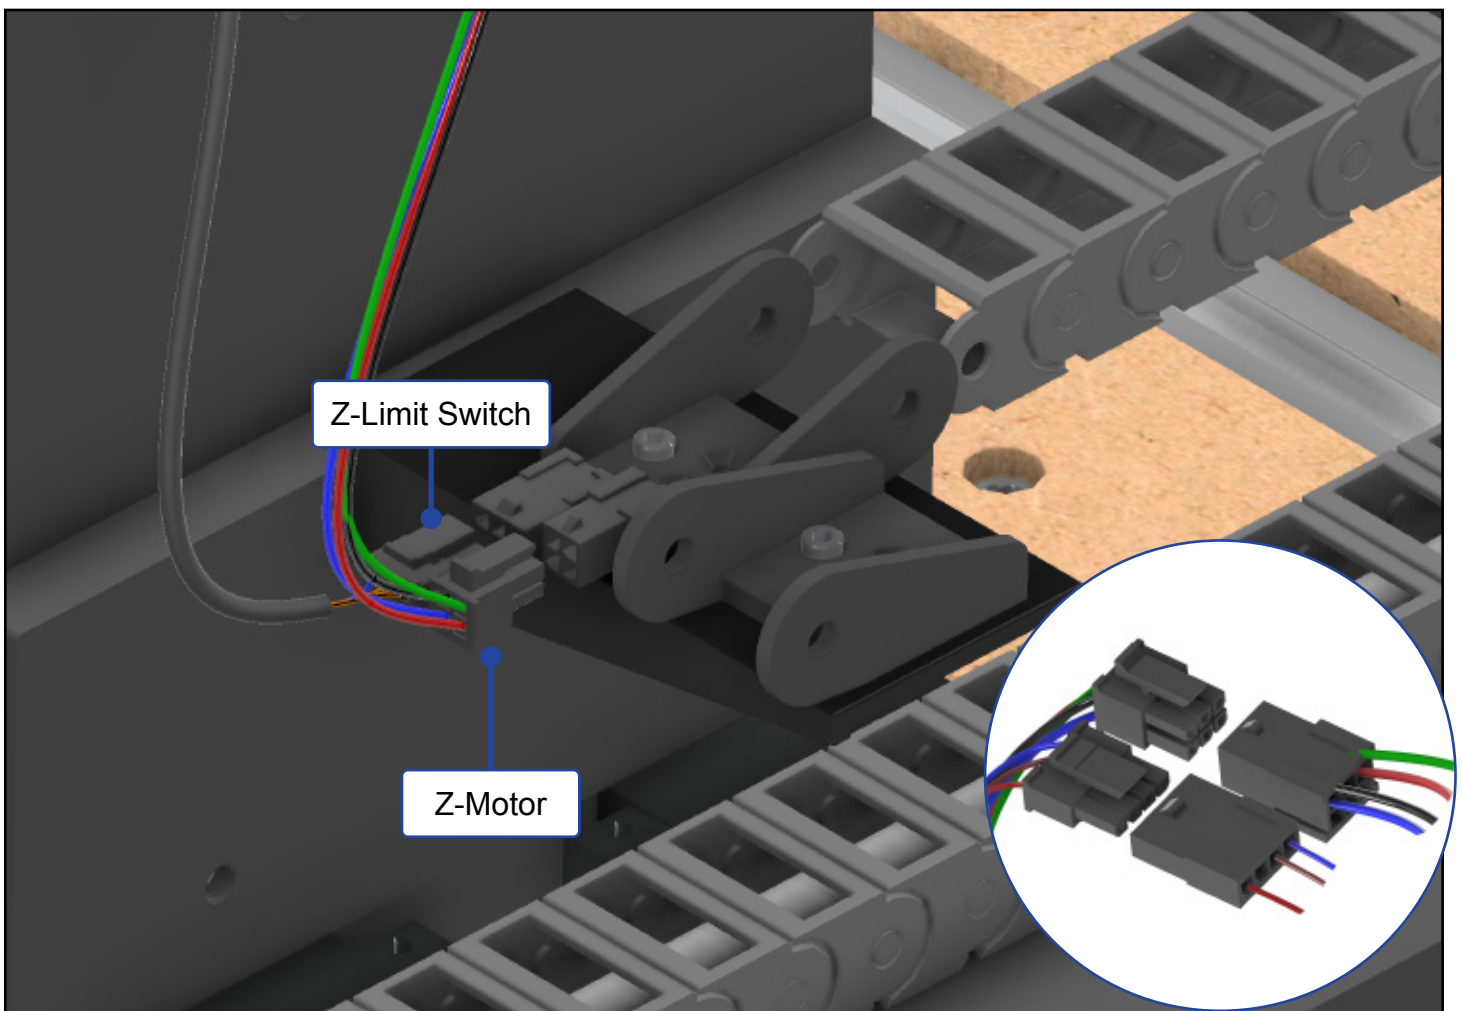

Figure 4-11
1. At the back of the HDZ, connect the Z-Axis motor and Z-Axis limit switch cables. See **Fig. 4-11**.